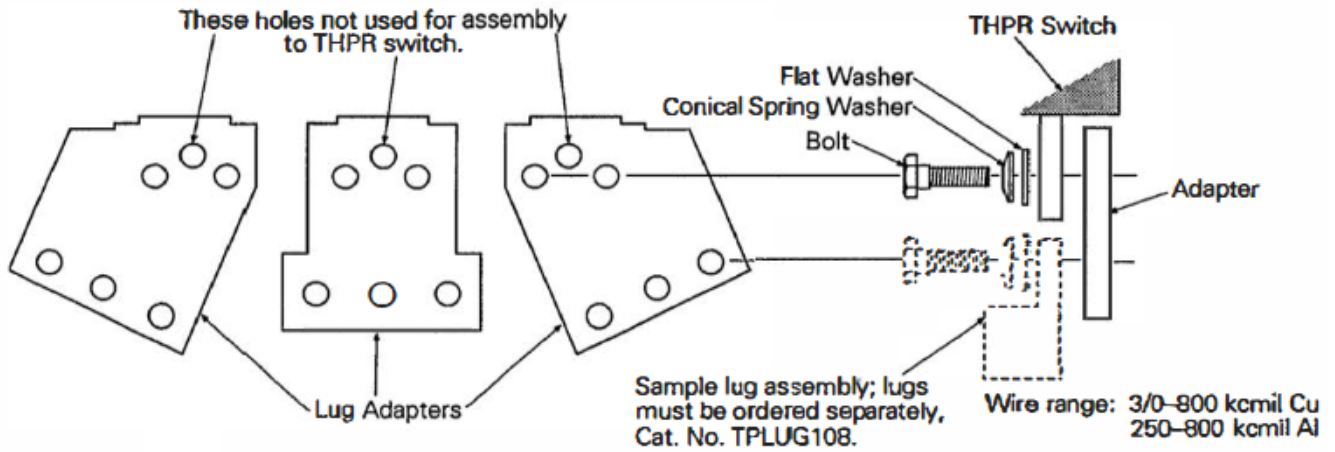

Figure 7. Typical assembly of lug adapters, catalog number THPCLUGAOB, to 800 A frame THPR switch.
- Figure 7 for THPCLUGA08 to an 800 A frame THPR switch.